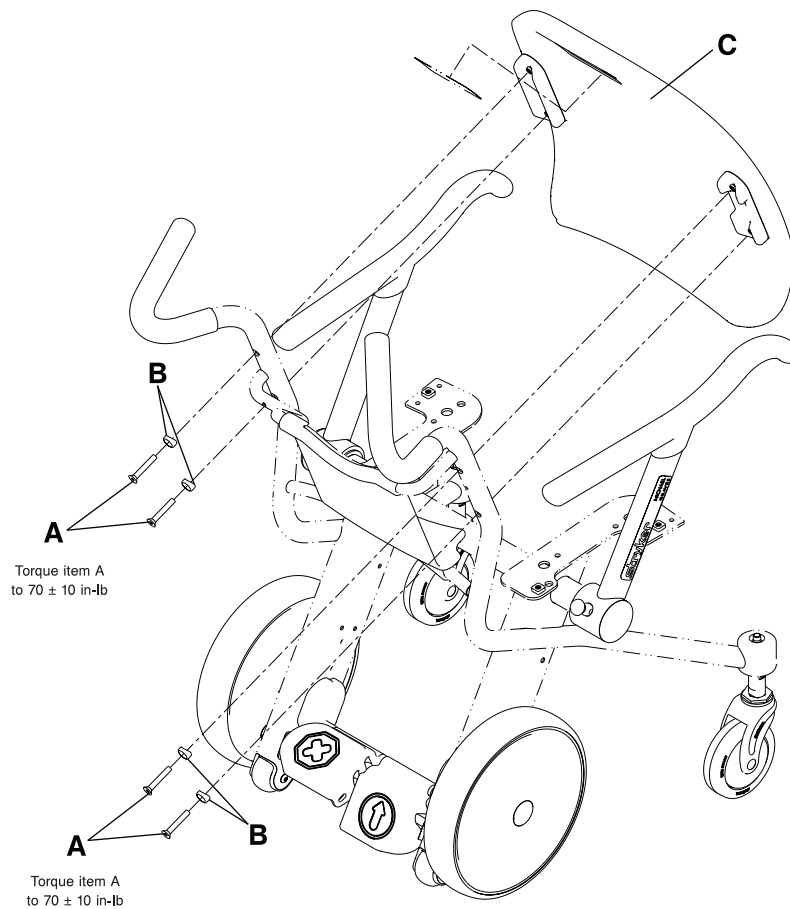

Figure 1-20: Seat back removal
2. Using a 3/16" hex wrench, remove the four flat head cap screws (A) and adaptors (B) to remove the seat back (C) from the chair frame. Save the screws, adaptors, and seat back (Figure 1-20 on page 1-36).
3. When reinstalling the seat back, use a 3/16" hex wrench to reinstall the four flat head cap screws (A) and adaptors (B) (removed in step 2) to secure the seat back (C) to the chair frame (Figure 1-20 on page 1-36). Using a 3/8" drive torque wrench, torque the screws to  $70 \pm 10$  in-lb.